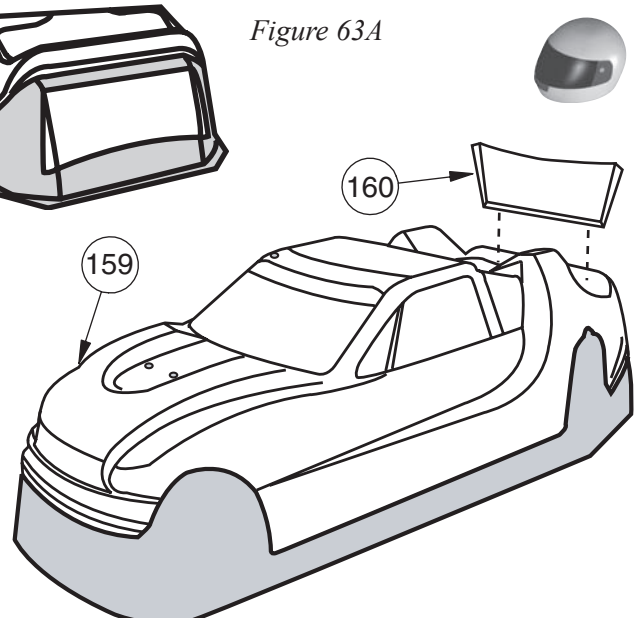

Figure 63B
- ❑ 2. Cut a piece of Two Sided Tape (156) approximately 3/8" wide.
- ❑ 3. Apply the Two Sided Tape along the bottom, on the back side of the rear Spoiler. Remove the backing from the Tape and affix the Spoiler to the Rear of the Body (159) as shown in Figure 63B.
- ❑ 4. Install the assembled Body onto the Chassis and secure it with four Body Clips (155) through the posts on the rear Shock Tower (55), and through the Body Mounts (151) on the front Shock Tower.